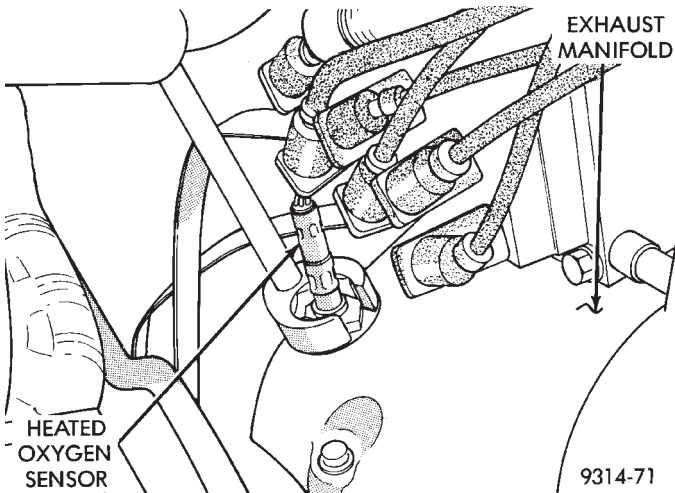

Fig. 79 Heated Oxygen Sensor Removal/Installation—3.5L Engine
- (2) Disconnect the heated oxygen sensor electrical connector.
- (3) Use a socket such as Snap-On YA8875 or a crow foot wrench to remove oxygen sensor (Fig. 79).